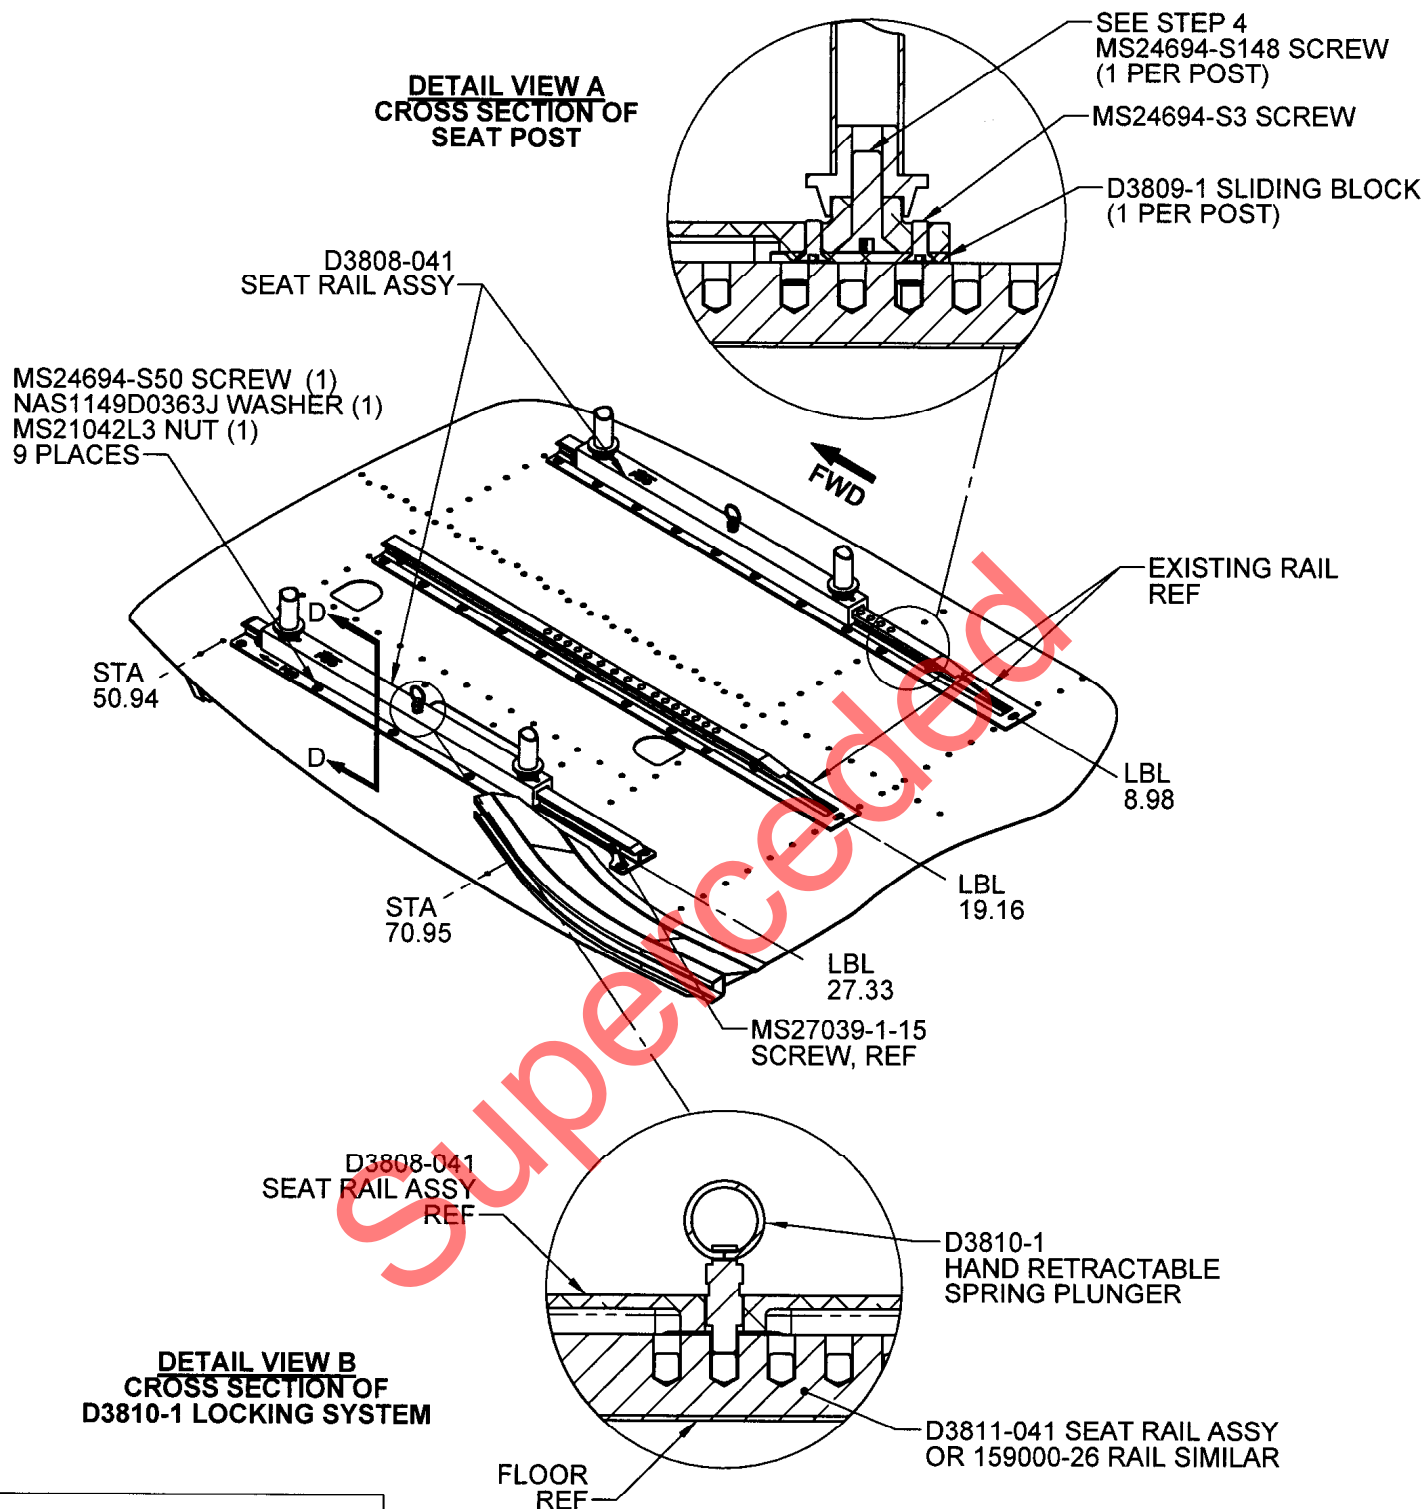

FIGURE 1 D350-689-021 INSTALLATION
1. Install the under floor structure as outlined in steps 1-18 of IIN-D350-689 Rev. A and DSI 9311 Rev. A as applicable, except do not install D3032-1 Spacers. Attach D3026-1 Channel to floor using (14) MS20426AD4 rivets. Ensure D3234-1/-3 Doublers are installed per DSI 9269 Rev. A.
2. Position the D3811-041 Seat Track Assy at LBL 27.33 as shown in Figure 1 to be in-line with the existing seat rails at LBL 8.98 and LBL 19.16.
3. Transfer the attachment holes from D3811-041 Seat Track Assy to aircraft floor (9 pls) using a $\phi 0.201$ (#7 drill). Deburr holes. Install D3811-041 using (9) MS24694-S50 screws, (9) NAS1149D0363J washers, and (9) MS21042L3 nuts as shown in Figure 1. Torque screws to 20 to 25 in-lbs (2.3 to 2.8 Nm).
4. If converting a -041 Seat Assembly to a -043 Seat Assembly, remove D3028-1 Studs, D3029-1 Springs, and D3030-1 Locks from the D350-689-041 Seat Assembly. Install (2) D3808-041 Seat Rails Assemblies as shown in Figure 1 Detail A using (4) MS24694-S148 Screws. Torque screws to 100 to 140 in-lbs (11.3 to 15.8 Nm). Install D3809-1 Sliding Blocks using (2) MS24694-S3 screws as shown in Figure 1 Detail A. Torque screws to 12 to 15 in-lbs (1.4 to 1.7 Nm).